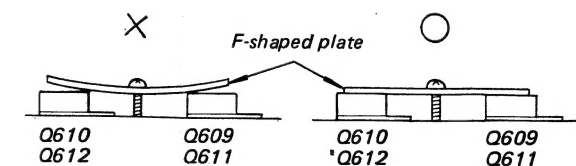

Fig. 4
*Lay the F-shaped plate flat to ensure uniform contact with all 4 transistors (see Fig. 4).